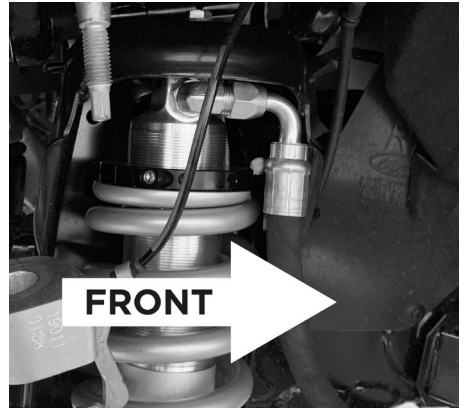

Figure 7: Passenger side shown
12. Remove the top (3) nuts that secure the top of the stock coil-over assembly to the vehicle. **DO NOT** remove center nut; doing so will release the spring from the stock assembly and could result in **SERIOUS INJURY** or **DEATH**!
13. Remove the (2) lower coil-over nuts connecting the shock to the lower control arm.
15. Once the stock coil-over is removed, you can now install your new FOX coil-over. With remote reservoir models, make sure that the hoses are facing outward and towards the front of the vehicle (Figure 7). Connect the coil-over top hat to the vehicle with the provided washers and nuts. Tighten all three nuts to 24 FT-LBS.